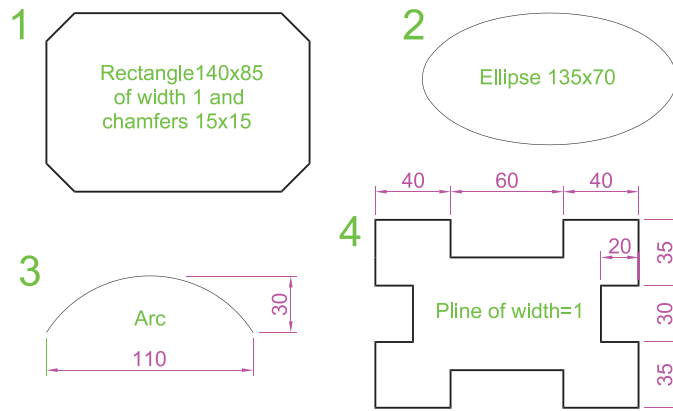
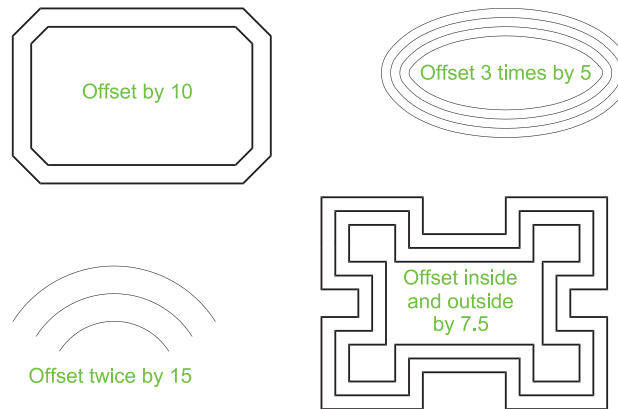

Fig. 5.13 Examples – Offset – outlines
Fig. 5.14 Examples – Offset
Examples – **Offset** (Fig. 5.14)
1. Construct the four outlines shown in Fig. 5.13.
3. Repeat for drawings 2, 3 and 4 in Fig. 5.13 as shown in Fig. 5.14.